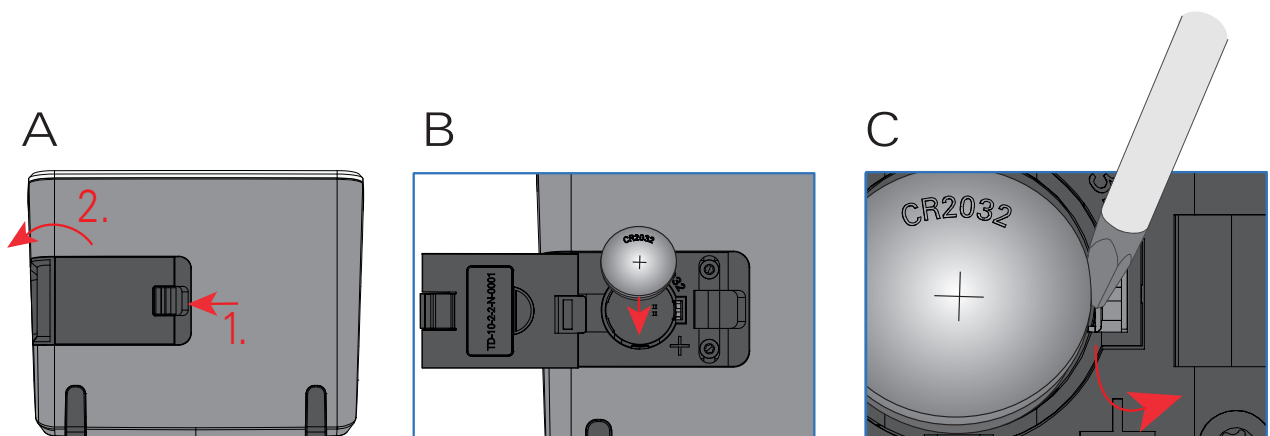

Figure 2: (A) Opening of the battery compartment, (B) insertion and (C) removal of the battery.
The Touch Display has an optional data logging function. To activate this function, insert a CR2032 3V button battery into the battery compartment, located on the underside of the display housing (Figure 2):
- Push the lock of the battery compartment and open the cover (Figure 2, A).
- Insert the button battery (Type CR2032, 3V), with the positive end facing up (Figure 2, B).
Use a tool like forceps or a slotted screwdriver to push the metal pin holding the battery (Figure 2, C) in order to take the battery out of the device. Always take the battery out of the device before sending the Touch Display through postal services.